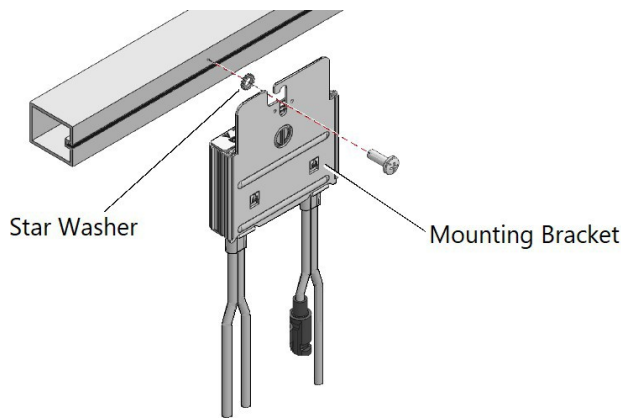

Figure 4: Power Optimizer installation and grounding using a star washer
1. Determine the Power Optimizer mounting location and use the Power Optimizer mounting brackets to attach the Power Optimizer to the support structure. [See Figure 4. \[25\]](#) It is recommended to mount the Power Optimizer in a location protected from direct sunlight.